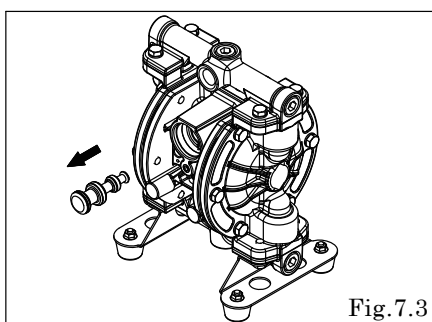

Fig. 7.3
- Remove spool assembly by pushing it from Cap A side (the side without reset button). [Fig. 7.3]